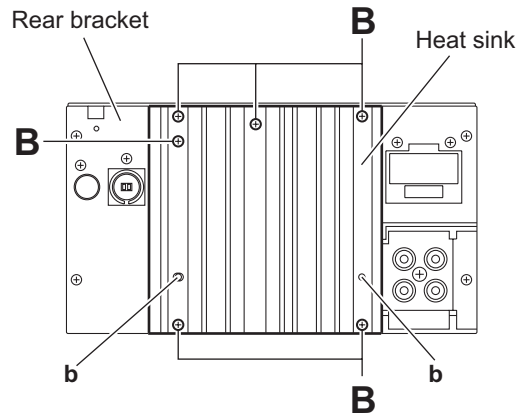
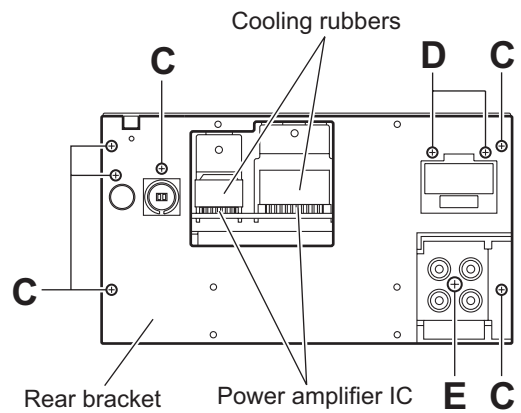

Fig.3
Fig.4
(See Figs.3 and 4)
- (1) From the back side of the main body, remove the six screws **B** attaching the heat sink. (See Fig.3.)
- (2) Remove the heat sink from the main body.
- Before attaching the heat sink, attach the cooling rubbers on the power amplifier IC. (See Fig.4)
- When attaching the heat sink, set the projections **b** on the rear bracket in the holes of the heat sink. (See Fig.3.)
(See Fig.4)